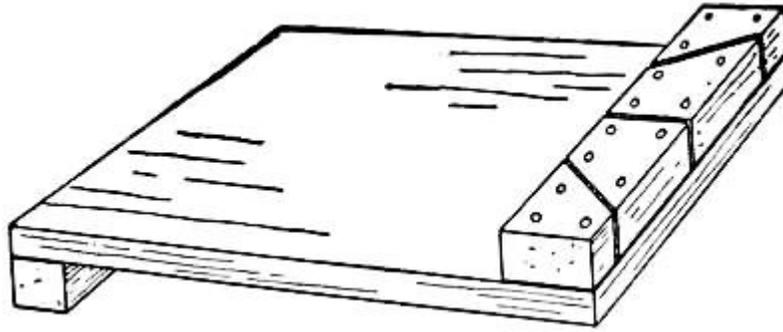

FIG. 11.—A Bench-hook.
**A Bench-hook**, such as shown in Fig. 11. A good size is ten by twelve inches, but it may be made larger or smaller if desired. Nail a strip along one edge of the under face and another strip along the opposite edge of the upper face. The latter strip should have three kerfs cut in it as shown in the drawing, one at right angles and the other two at forty-five degrees. These may be laid off with a try-square, as shown in Figs. 38 and 39 (Chapter II), or with the bevel, as shown in Fig. 42. Be careful to keep the saw on the line and in a perfectly perpendicular position in making these kerfs. The upper strip on the bench-hook serves the purpose of a stop, and the kerfs make it possible to use the bench-hook for mitring with the back-saw. Further description of the uses of this handy article will be found in the following chapter.